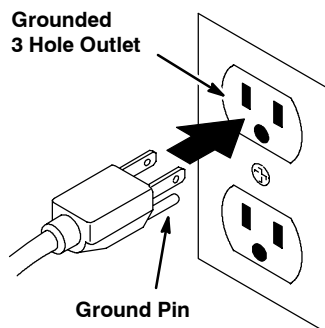

FIG. 53
- Connect the charger's AC power supply cord to a properly grounded receptacle (Figure 53).